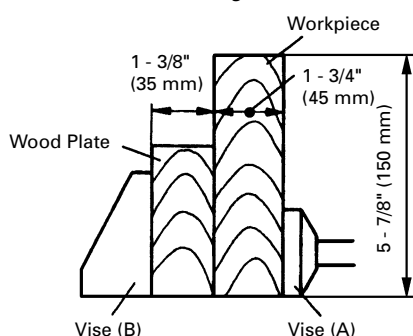

Fig. 20
- (2) Fig. 20 shows the dimensions of a wide workpiece to be cut at an angle of 45°. The use of a plate as illustrated in the figure, permits cutting of wide workpieces of up to 1 - 3/4" (45 mm) (width) × 5 - 7/8" (150 mm) (height). Before the tool is shipped, the saw blade is set in the 5 - 1/8" (130 mm) position. Adjust the handle position to cut the wide workpiece of 5 - 7/8" (150 mm) in height. (Refer to P. 13; "6. Handle position adjustment".)